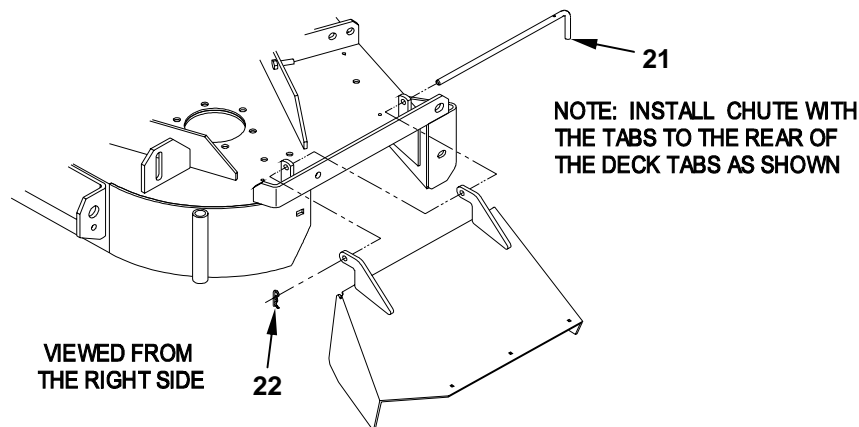

FIGURE 8
- 4.3.6. Install the discharge chute using the chute pivot pin and hairpin (See Figure 8).